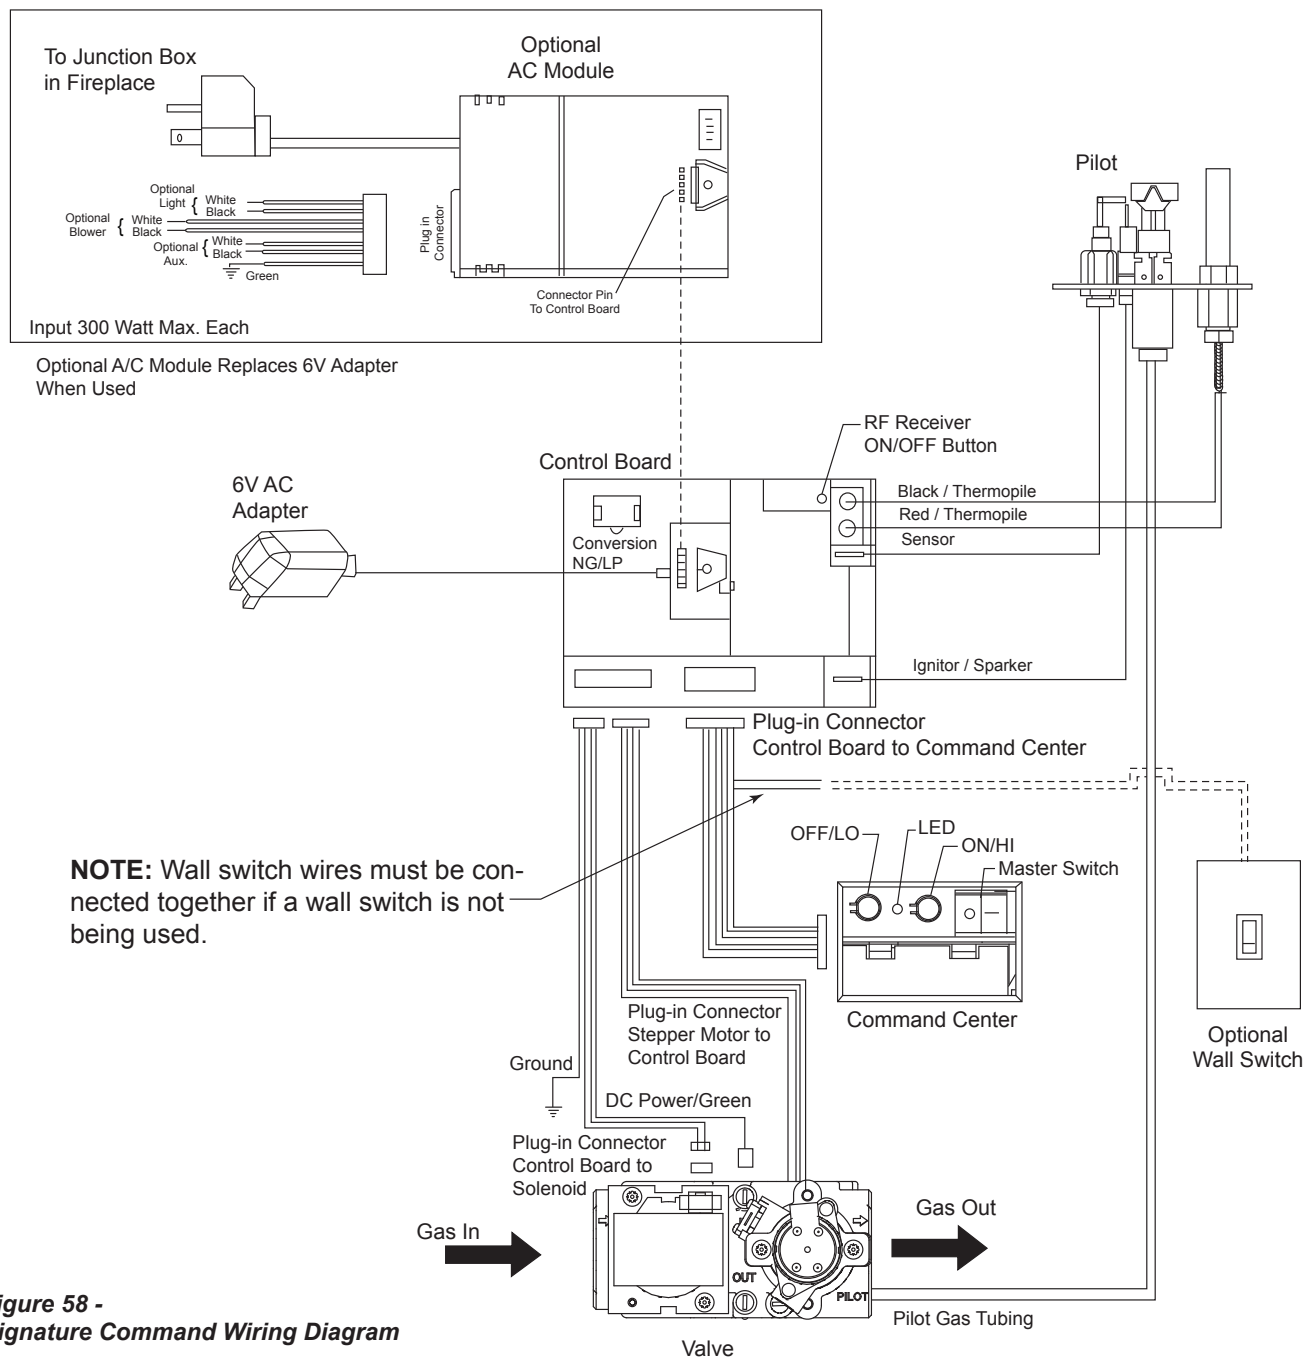

**Figure 58 -
The wall switch wire connection is located off the 2 ft. wire harness from the control box to the command center. *Figure 58*. The connection is labeled "Wall Switch". Unplug the male and female connectors and connect the two (2) low voltage wires provided. Run wire to desired location on wall. Up to 50 ft. of 18 ga. wire may be used if necessary. Attach wires to wall switch. Mount the wall switch in to junction box and screw on cover.